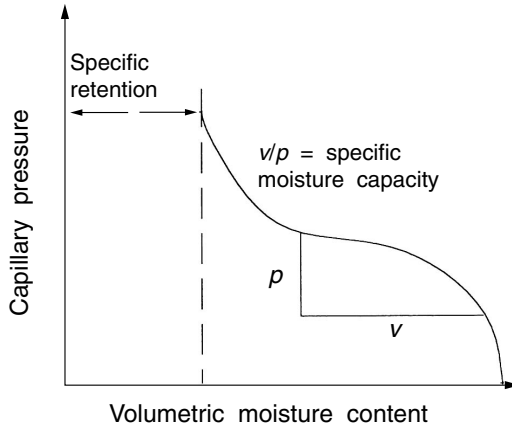

FIGURE M-4 Moisture characteristic curve.
**Moisture characteristic curve** A graphical representation of the relationship between capillary pressure and volumetric moisture content of a soil sample. It is an inclined S-shaped curve, which also shows the sample's specific retention and specific moisture capacity. Also called **soil-water retention curve**. See Figure M-4.